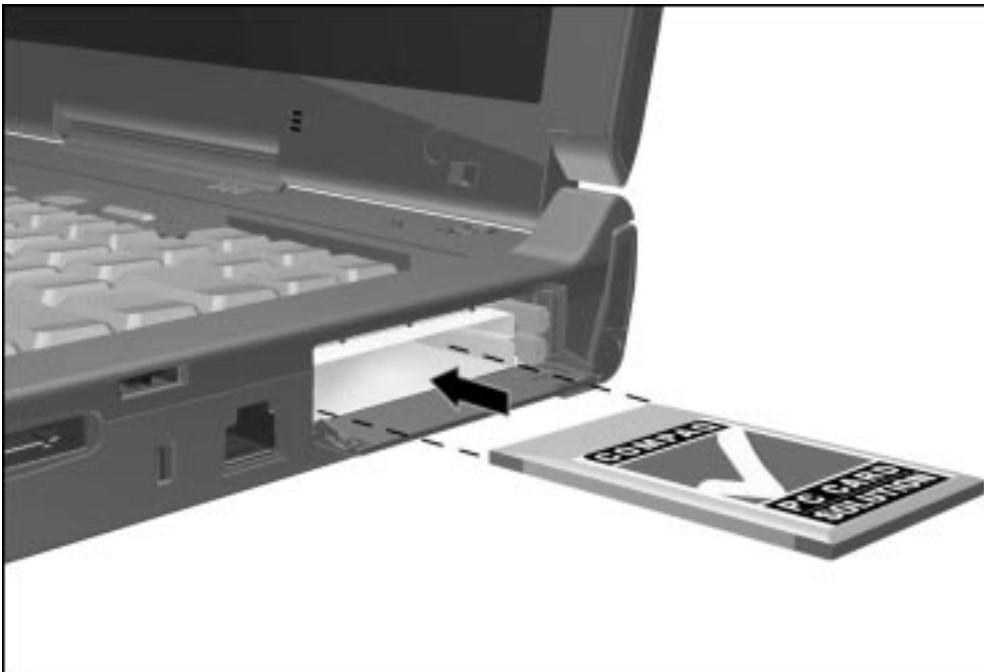

Figure 5-15. Inserting a PC Card
2. Open the PC Card door by flipping it down (Figure 5-15).